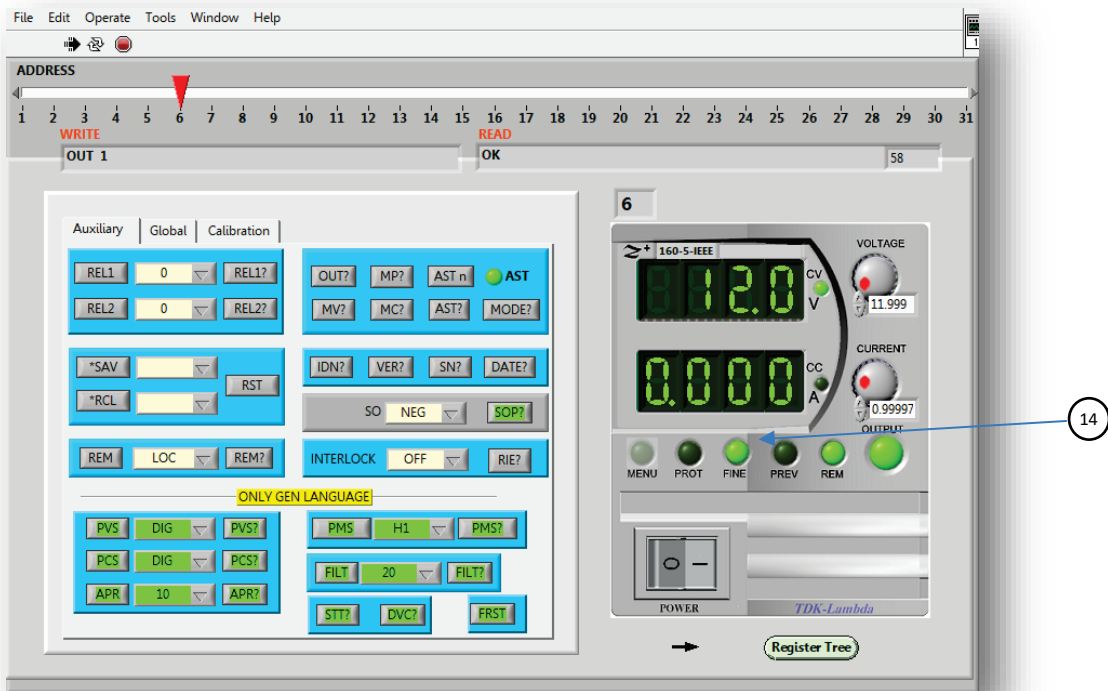

Figure 32
10. Press FINE LED/Button (14) for auxiliary commands and queries. To return - press the button again. Refer to Figure 32.